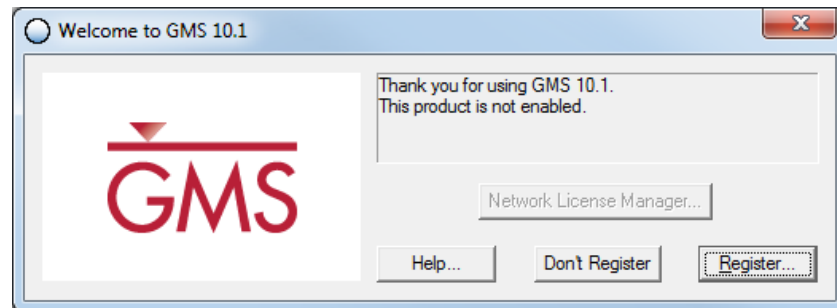
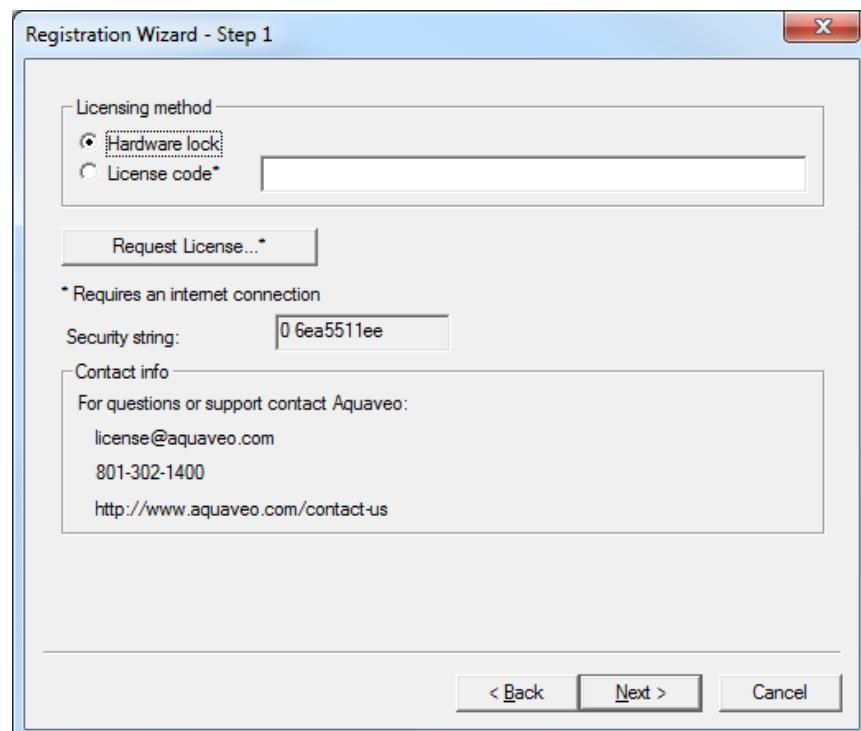

Figure 2 Unregistered version
Figure 3 Registration Wizard dialog
4. If the dialog in Figure 2 appears, click the **Register...** button to bring up the *Registration Wizard – Step 1* dialog (Figure 3) and continue to step 5.